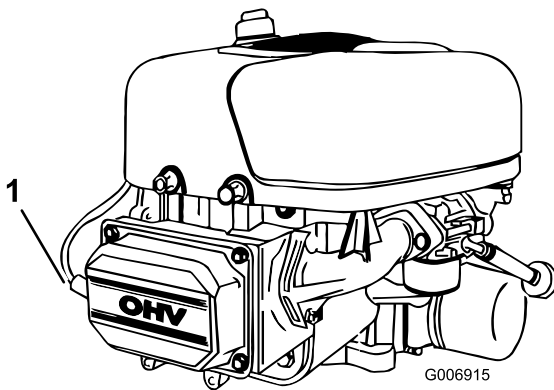

Figure 22
5. Disconnect the wire from the spark plug (Figure 22).
3. Connect the wire to the spark plug (Figure 22).